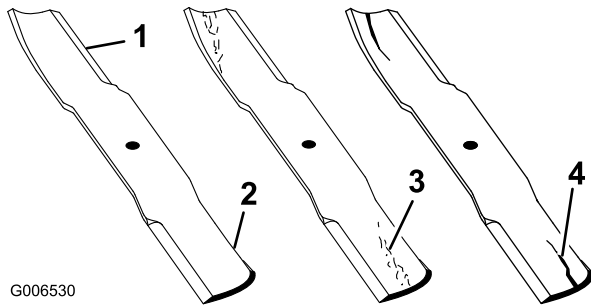

Figure 101
2. Examine the cutting ends of the blade carefully, especially where the flat and curved parts of the blade meet (Figure 101). Since sand and abrasive material can wear away the metal that connects the flat and curved parts of the blade, check the blade before using the mower. If wear is noticed (Figure 101), replace the blade.
If the blade is allowed to wear, a slot will form between the sail and flat part of the blade (Figure 101). Eventually a piece of the blade may break off and be thrown from under the housing, possibly resulting in serious injury to you or bystanders.